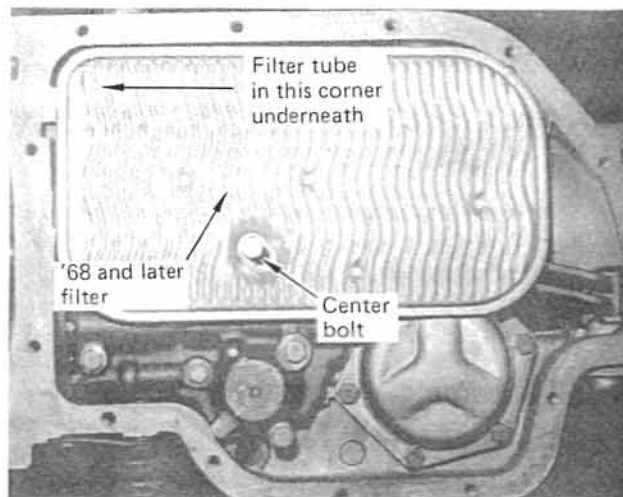

FIGURE 4
**'68-'87 models:** You will have a large flat ripple surface filter held in place by a center bolt. (See Fig. 4) Remove the center bolt first and then pull the filter off. There is a short tube (plastic or steel) which connects the filter to the case hole. If it did not come out with the filter remove it now.